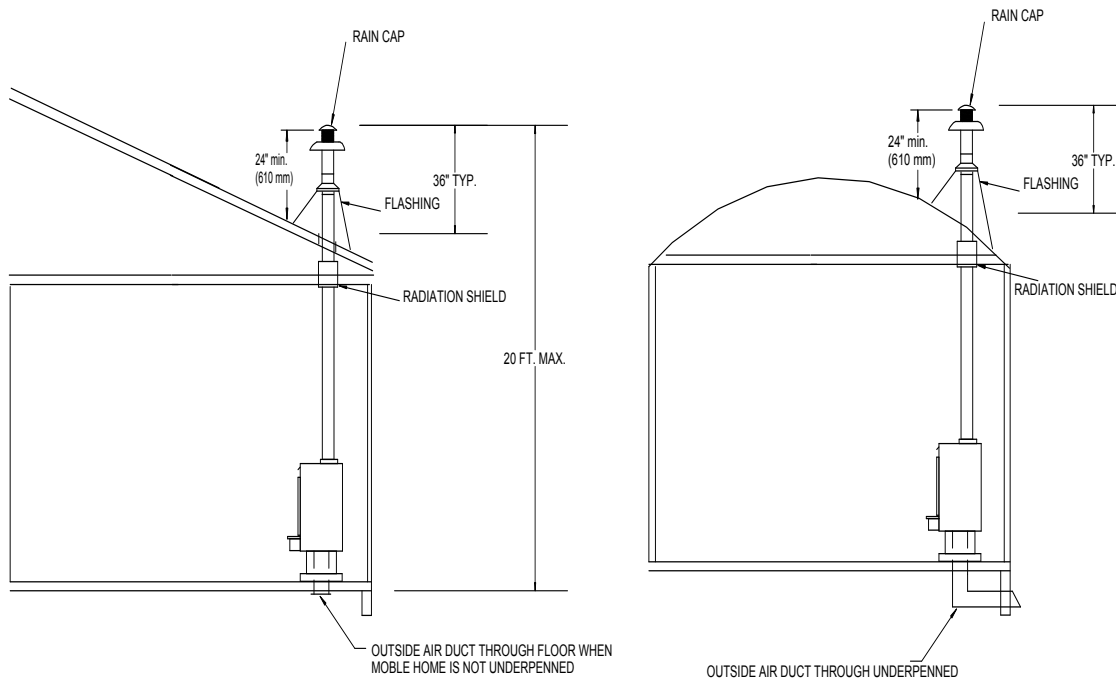

Figure 12
15. Secure the outside air duct to the floor using the four (4) #10x1 screws provided. (See Figure 12.)
- (b) Chimney pipe height is at least 2 feet higher than any part of the roof within 10 feet of the chimney. (See Figure 12.)